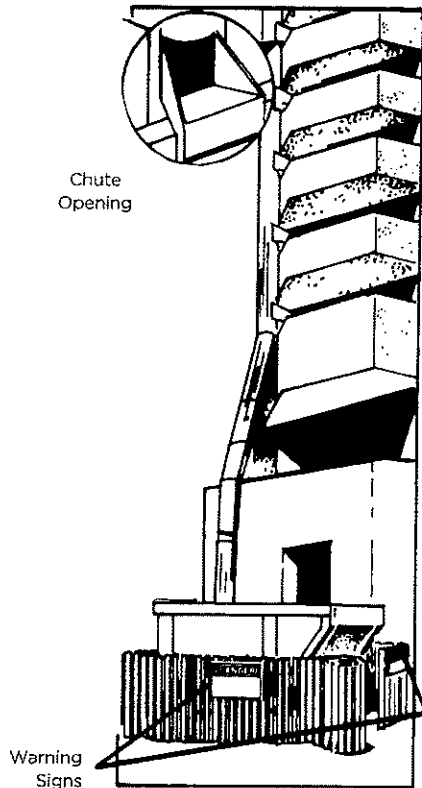

Figure 25-3: Use a Chute to Lower Rubbish
- Do not permit rubbish to fall freely from any level of the project. Lower it by means of a chute or other approved device (Figure 25-3).